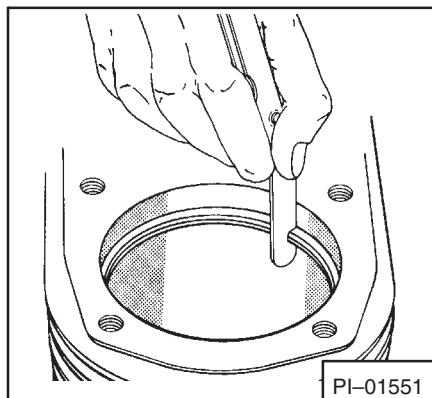

Fig. 42 Measuring Piston Ring End Gap
3. Before installing new rings on piston, place each ring in turn in its running area in cylinder bore and check end clearance (Fig. 42).